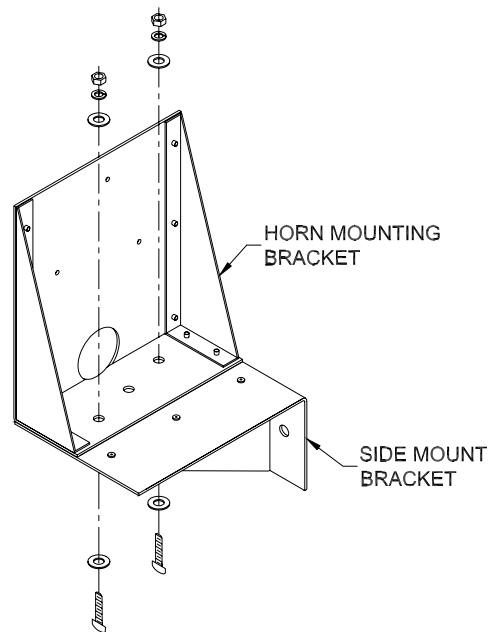

Figure 7 Side Mount Bracket Removal
6. The horn mounting bracket has a side mount bracket attached. If the horn is going to be mounted on top of the scoreboard, remove the side mount bracket as seen in figure 7.